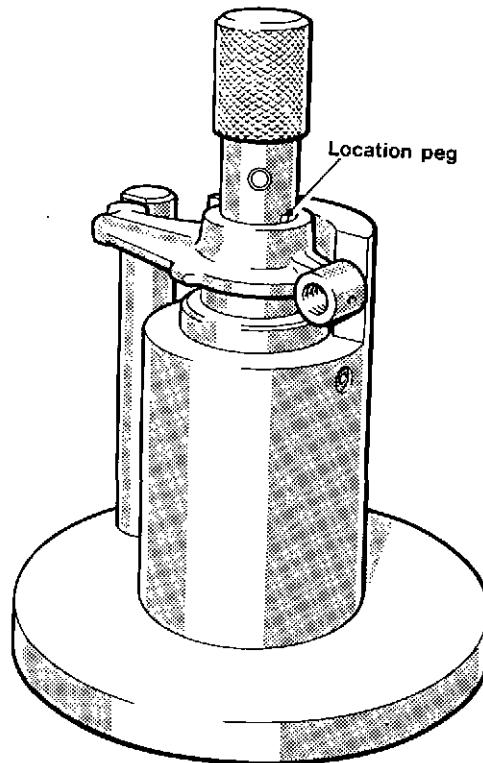

Fig. 19 Inserting rocker arm bush
- 77 Check the rocker arm bore for scoring or other damage and, using the Insertion Tool, VT 10693, (fig. 19) and a hand press, fit a new bush into the rocker arm as described below.